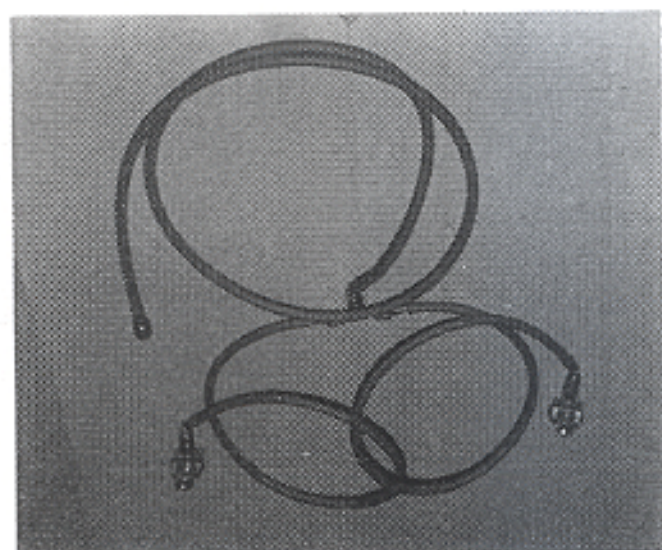
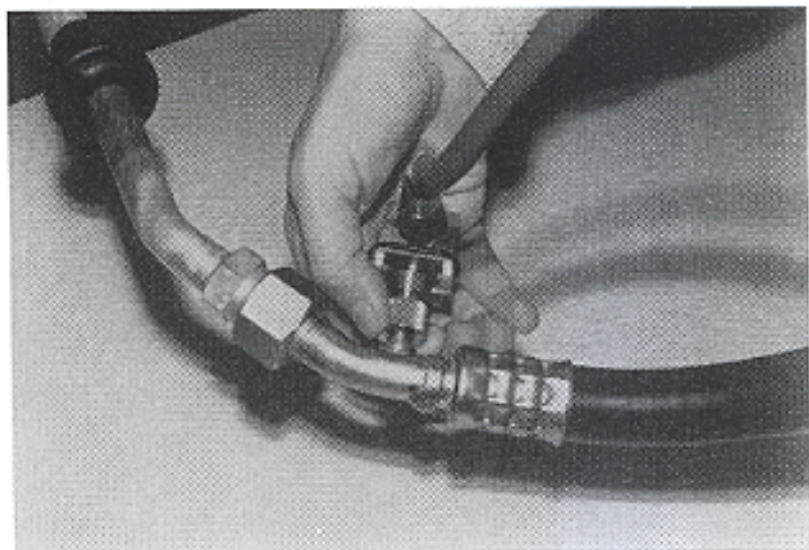
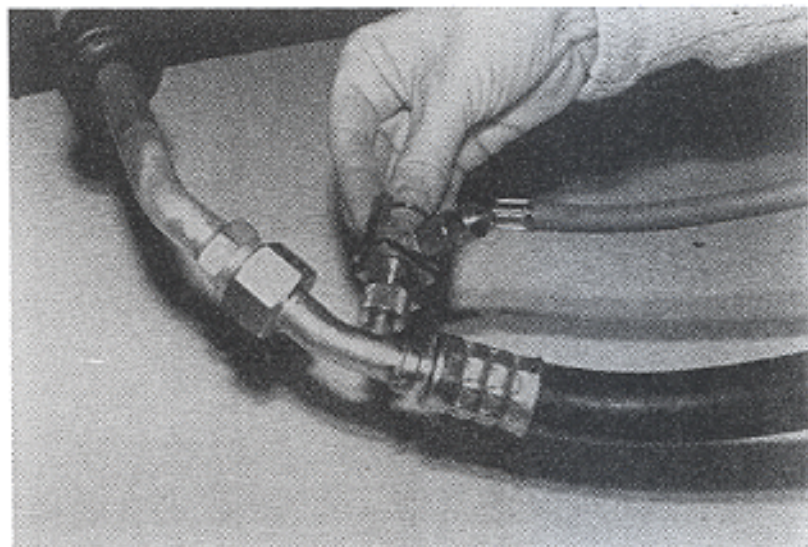
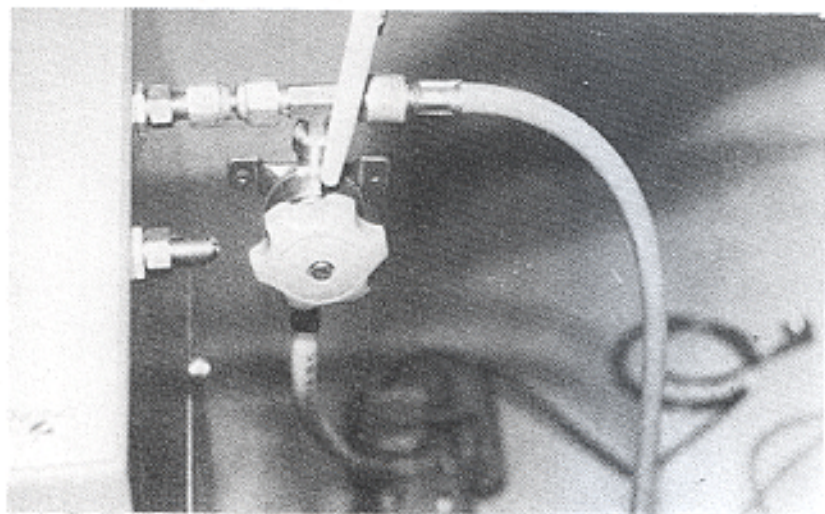

Fig.2
Fig.7
Fig.8
Fig.9
- Mount the set of hoses (fig 2) to the inlet stub (pos 4, page 9).
- Mount the hoses (fig 2) on the high and low-pressure side of the air-conditioning system to be emptied (fig 7). At the end of the hoses check valves are mounted, which are to be mounted as shown in fig 8 and then they must be pressed from behind so that the Schraeder valve opens on the car.
- The station can also be used for charging of the air-conditioning system again. This is done by dismantling the yellow hose. Then the hose is to be mounted as shown (fig 9).
- Charging of refrigerant is done by mounting the hose as described in figs 7 and 8.
- Set the switch (pos 12, page 10) to position CHARGING.
- Open the valve (fig 9) and start the vacuum pump. The air-conditioning system is now evacuated. Please note that there has to be built in a measuring instrument between valve and vacuum pump, so that the vacuum level in the air-conditioning system can be supervised.
- When the air-conditioning system has reached the correct vacuum level, the valve to the vacuum pump (fig 9) is closed again.